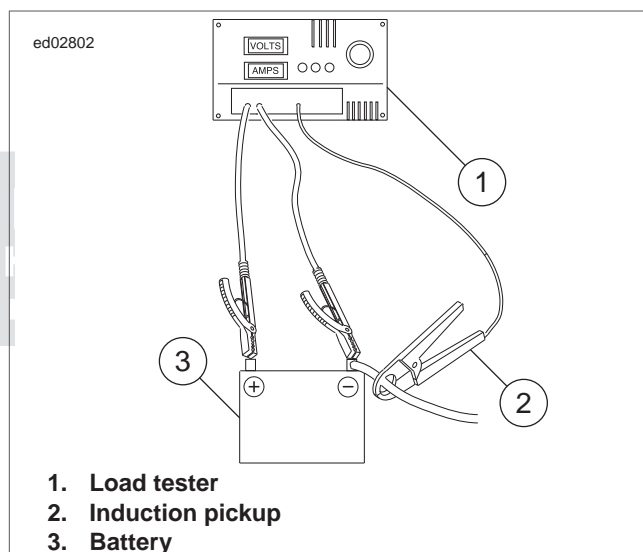

Figure 3-18. Check Current Draw (Ignition Switch On)
- See Figure 3-18. Connect load tester.